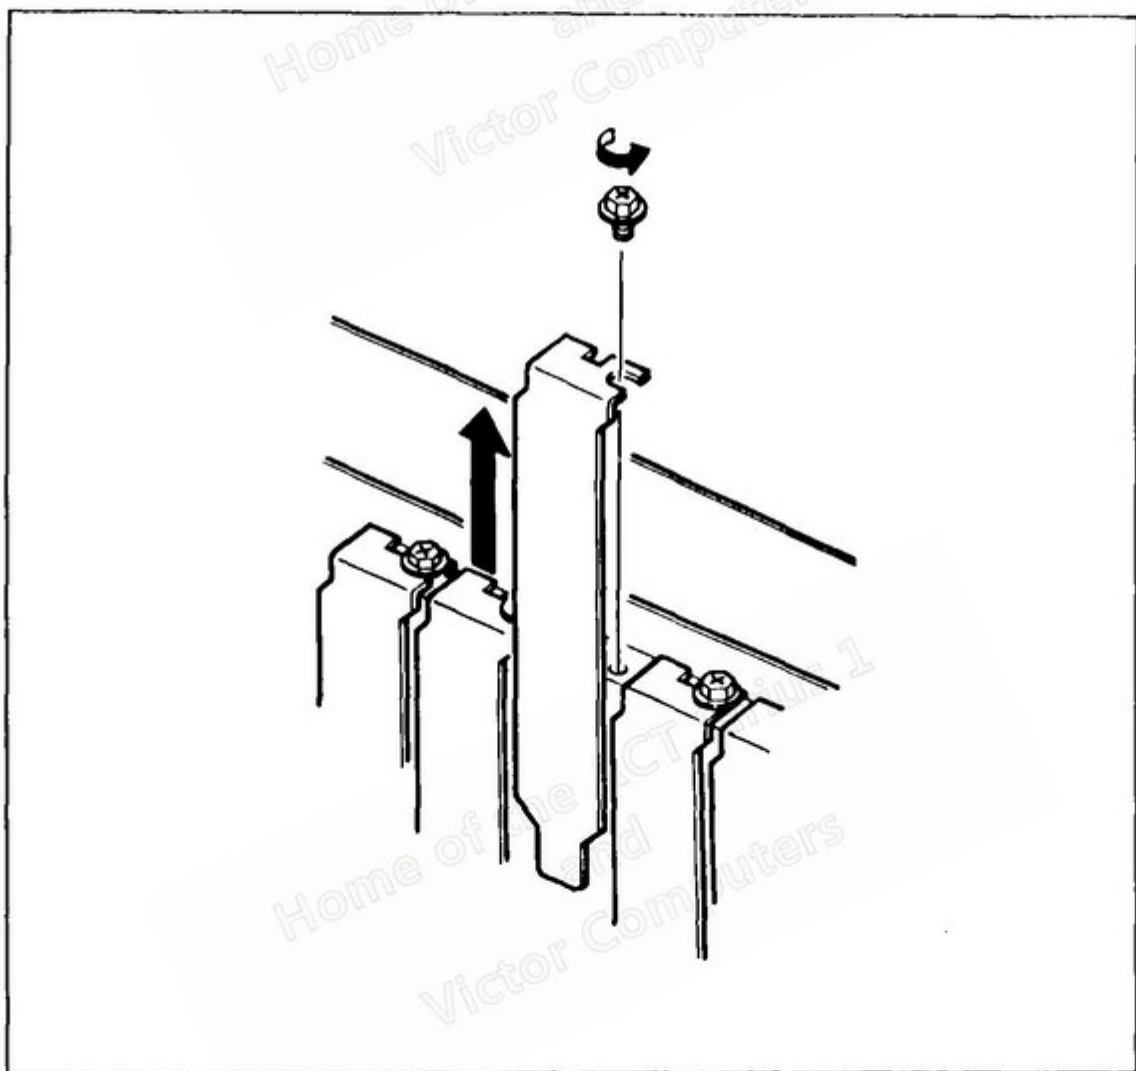

Figure A-5: Removing the Dummy Mounting Bracket
1. Remove the expansion slot's dummy mounting bracket from the rear panel of the system unit. For each expansion slot, there is an opening in the rear panel. The openings for slots not currently used are covered by dummy mounting brackets. Once you have selected a slot for the installation of your option card, remove the dummy mounting bracket as shown in Figure A-5. Save the screw from the dummy bracket; you will need it to secure the option card.